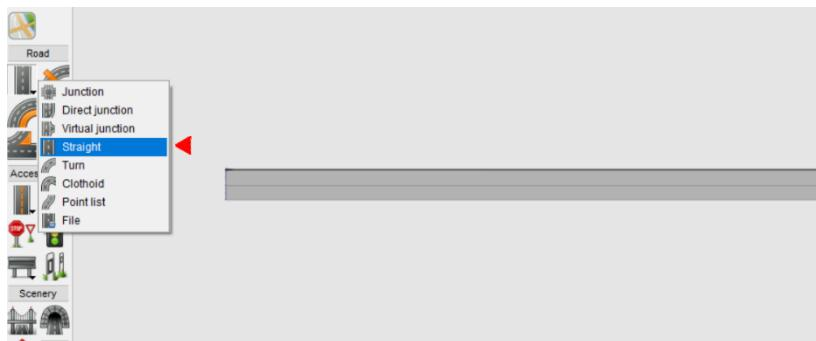

Figure 3.10: Defining a straight road
- Left click and hold the *Road segment* icon (see Figure 3.10) until a drop down menu appears. Select the road segment tool: *Straight* .